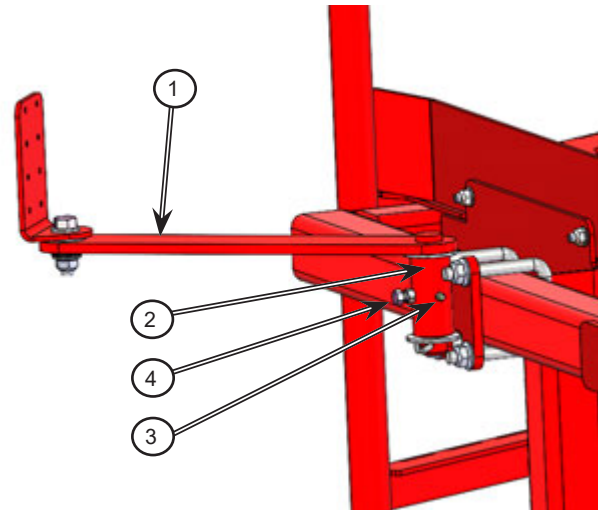

Figure 5: Install the scale head mount arm
3. Install the previously removed scale head mount arm (1) and washer into the new swivel base (2); see *Figure 5*.
Note: The scale head mount arm and display holder on the unit may look different than what is shown in *Figure 5*. The below steps are still applicable.